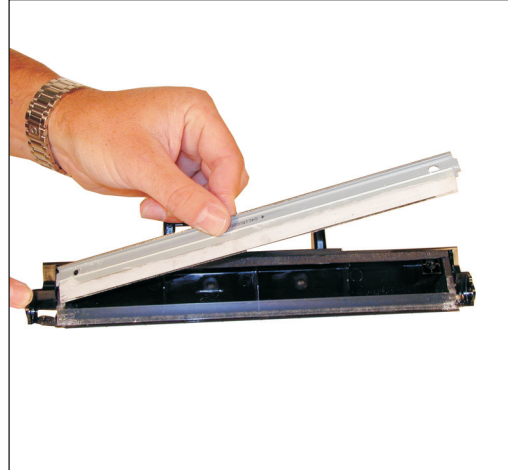

Figure 11
8) Coat the new wiper blade with your preferred lubricant, and install the wiper blade and two screws. Remember to use the smaller screws. See Figure 11